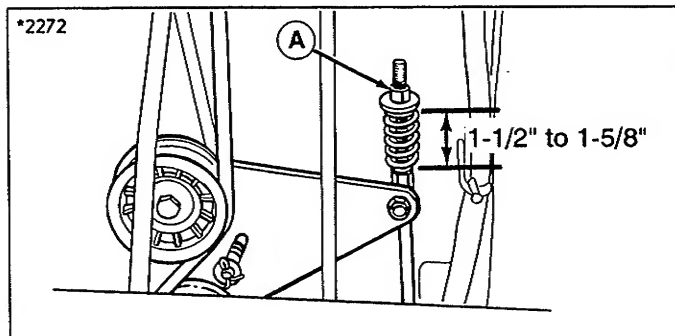

Figure 35. Hydro Models
2. The spring should be compressed to 1-1/2" to 1-5/8" long. Turn adjustment nut (A, figure 35) as necessary for correct spring length.